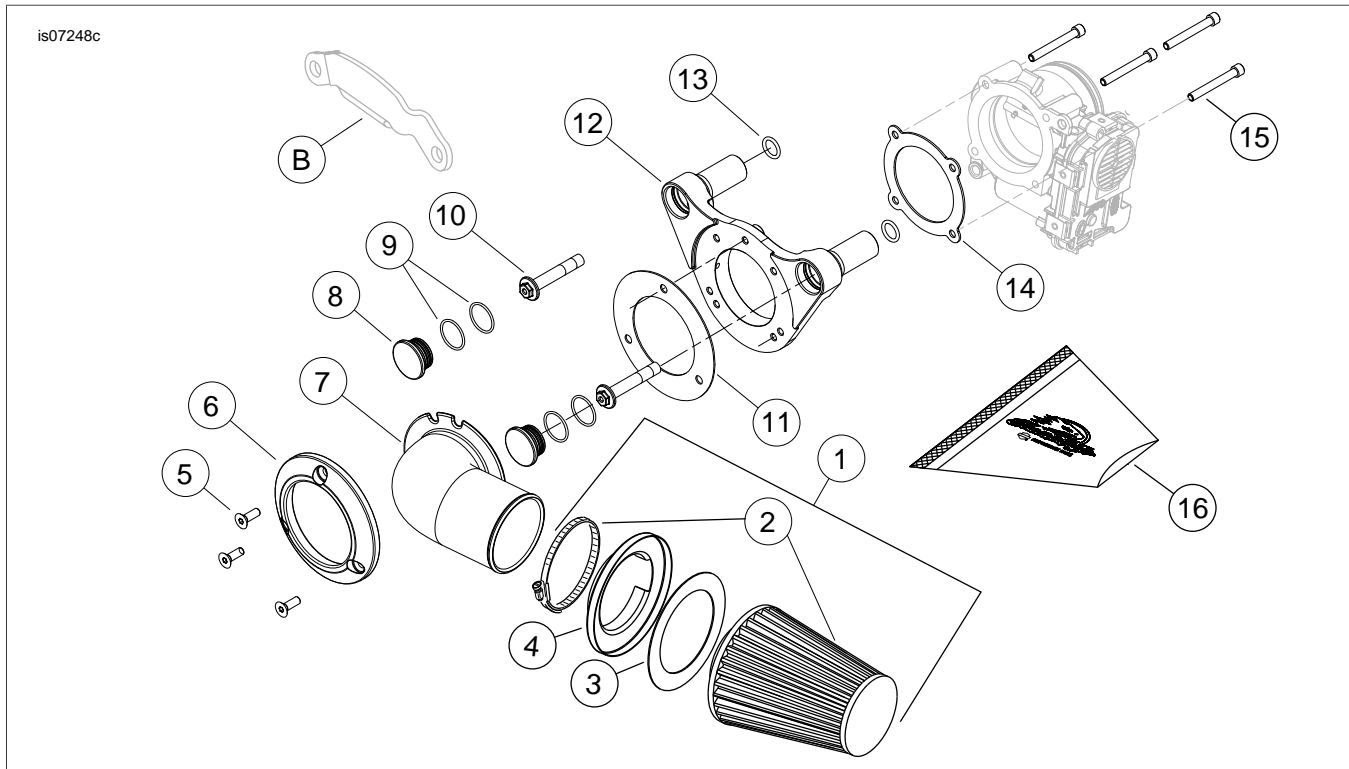

Figure 1. Service Parts: Screamin' Eagle 64mm Race Velocity Stack Kit
See Figure 1 and Table 1.
3. See Figure 1. Remove and discard induction module bracket (B).